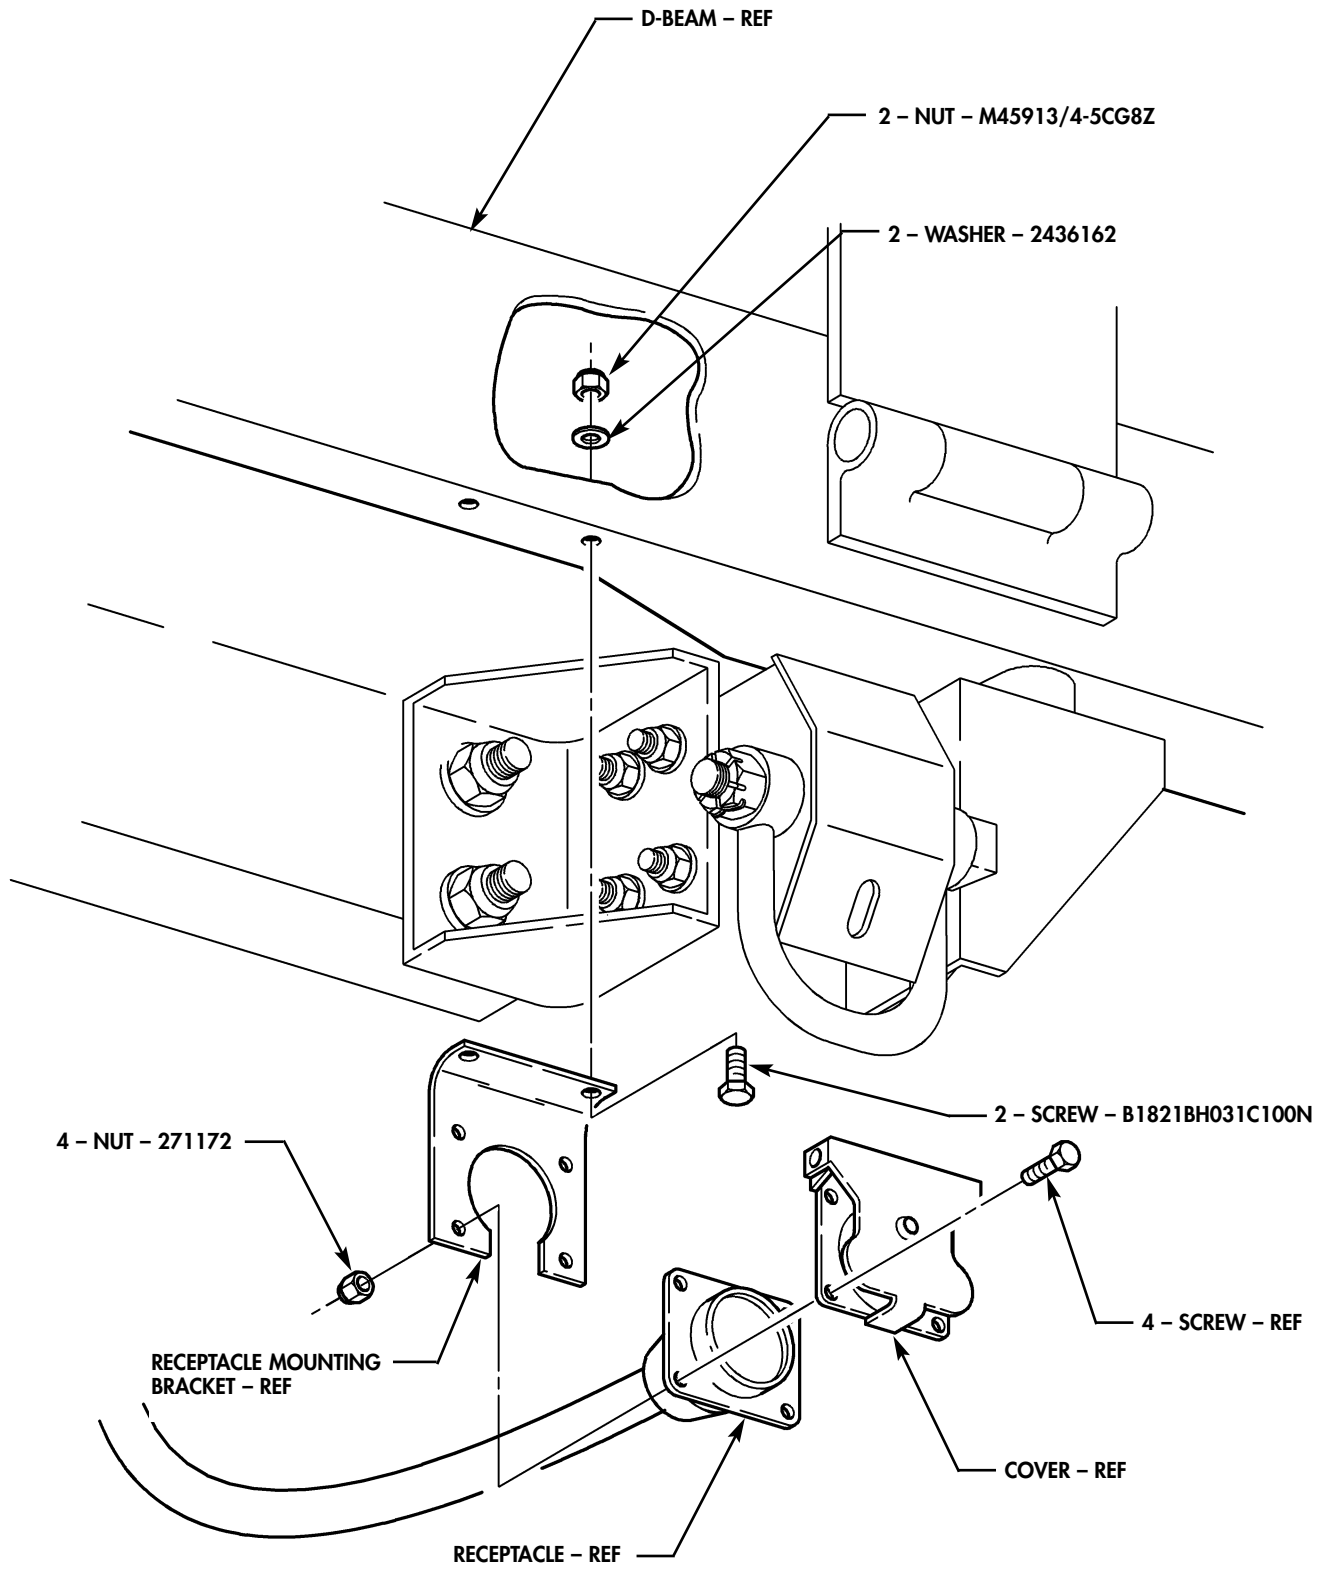

FIGURE 11
- (1) Install receptacle mounting bracket on D-beam with two B1821BH031C100N screws, 2436162 washers, and M45913/4-5CG8Z nuts as shown in figure 11.
- (2) Install existing receptacle and existing cover on receptacle mounting bracket with four existing screws and 271172 nuts as shown in figure 11.